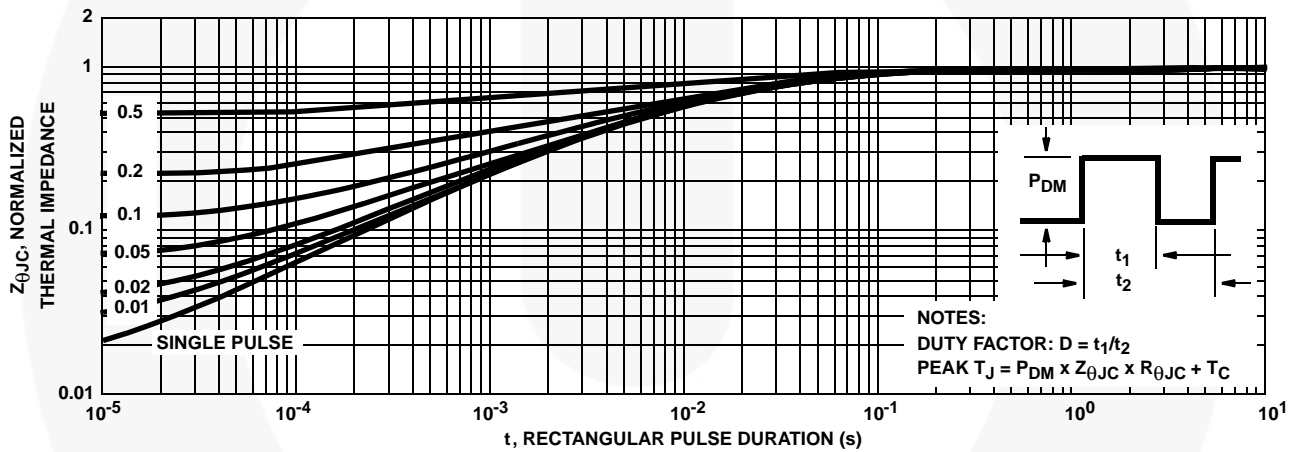

FIGURE 3. NORMALIZED MAXIMUM TRANSIENT THERMAL IMPEDANCE
3. Repetitive Rating: Pulse Width limited by max junction temperature. See Transient Thermal Impedance Curve (Figure 3) and Peak Current Capability Curve (Figure 5).